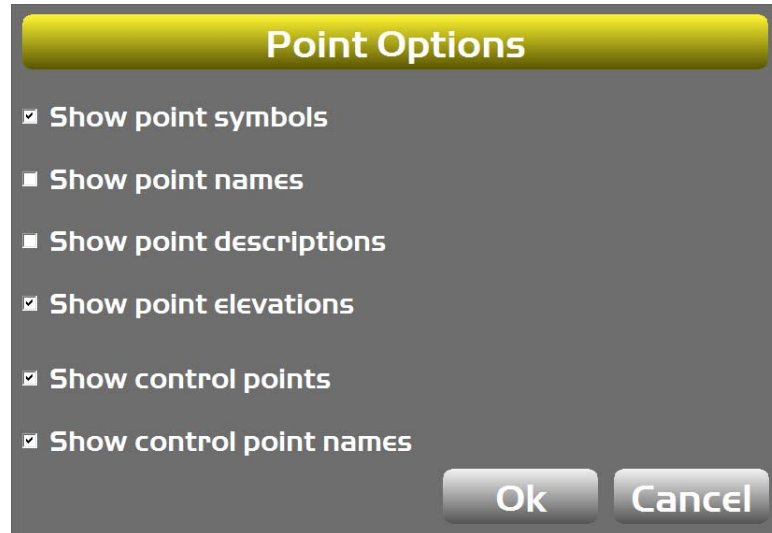

Figure 107: Point Options Screen
2. Select the desired check box (Figure 107).